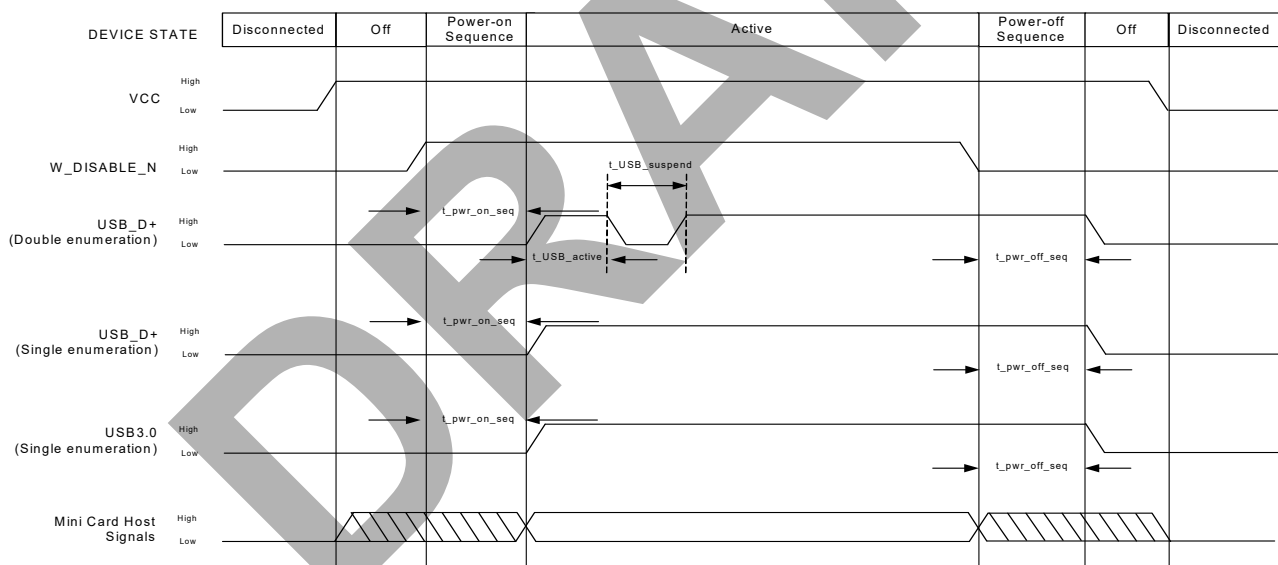

Figure 4-2: Signal Timing ($W_DISABLE_N$, and USB Enumeration)
Figure 4-2 describes the timing sequence for powering the module on and off.
- Double enumeration—As shown in Figure 4-2 on page 43: